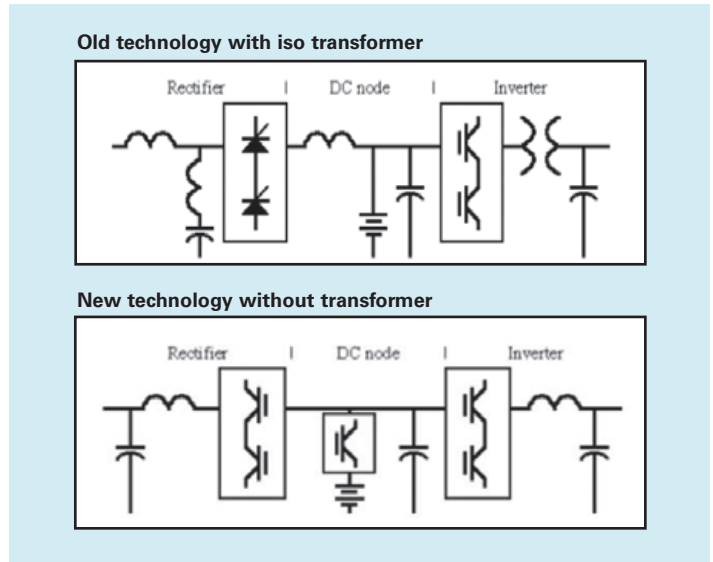

Figure 2. Simplified schematics of legacy and modern transformerless technologies.
Figure 2 illustrates the basic schematic of the legacy and transformerless technology UPS powertrain. A phase-controlled rectifier, while efficient and cost-effective, produces large harmonic input currents and reduced input power factor that is unacceptable at many sites and incompatible with some generators. Large input inductors and harmonic filters are needed to bring the harmonics down to 5 to 10 percent total harmonic distortion (THD) and power factor (PF) up to >0.99 PF. These components add cost and weight and increase footprint, while the large numbers of capacitors reduce mean time between failures (MTBF). In addition, they do not hold THD down and PF up over a wide load range. They are typically effective only above 60 percent of full load. At light loads below approximately 40 percent, the input PF can actually become leading and will cause incompatibility with generators. The PF also varies with line voltage but is only specified at nominal line.